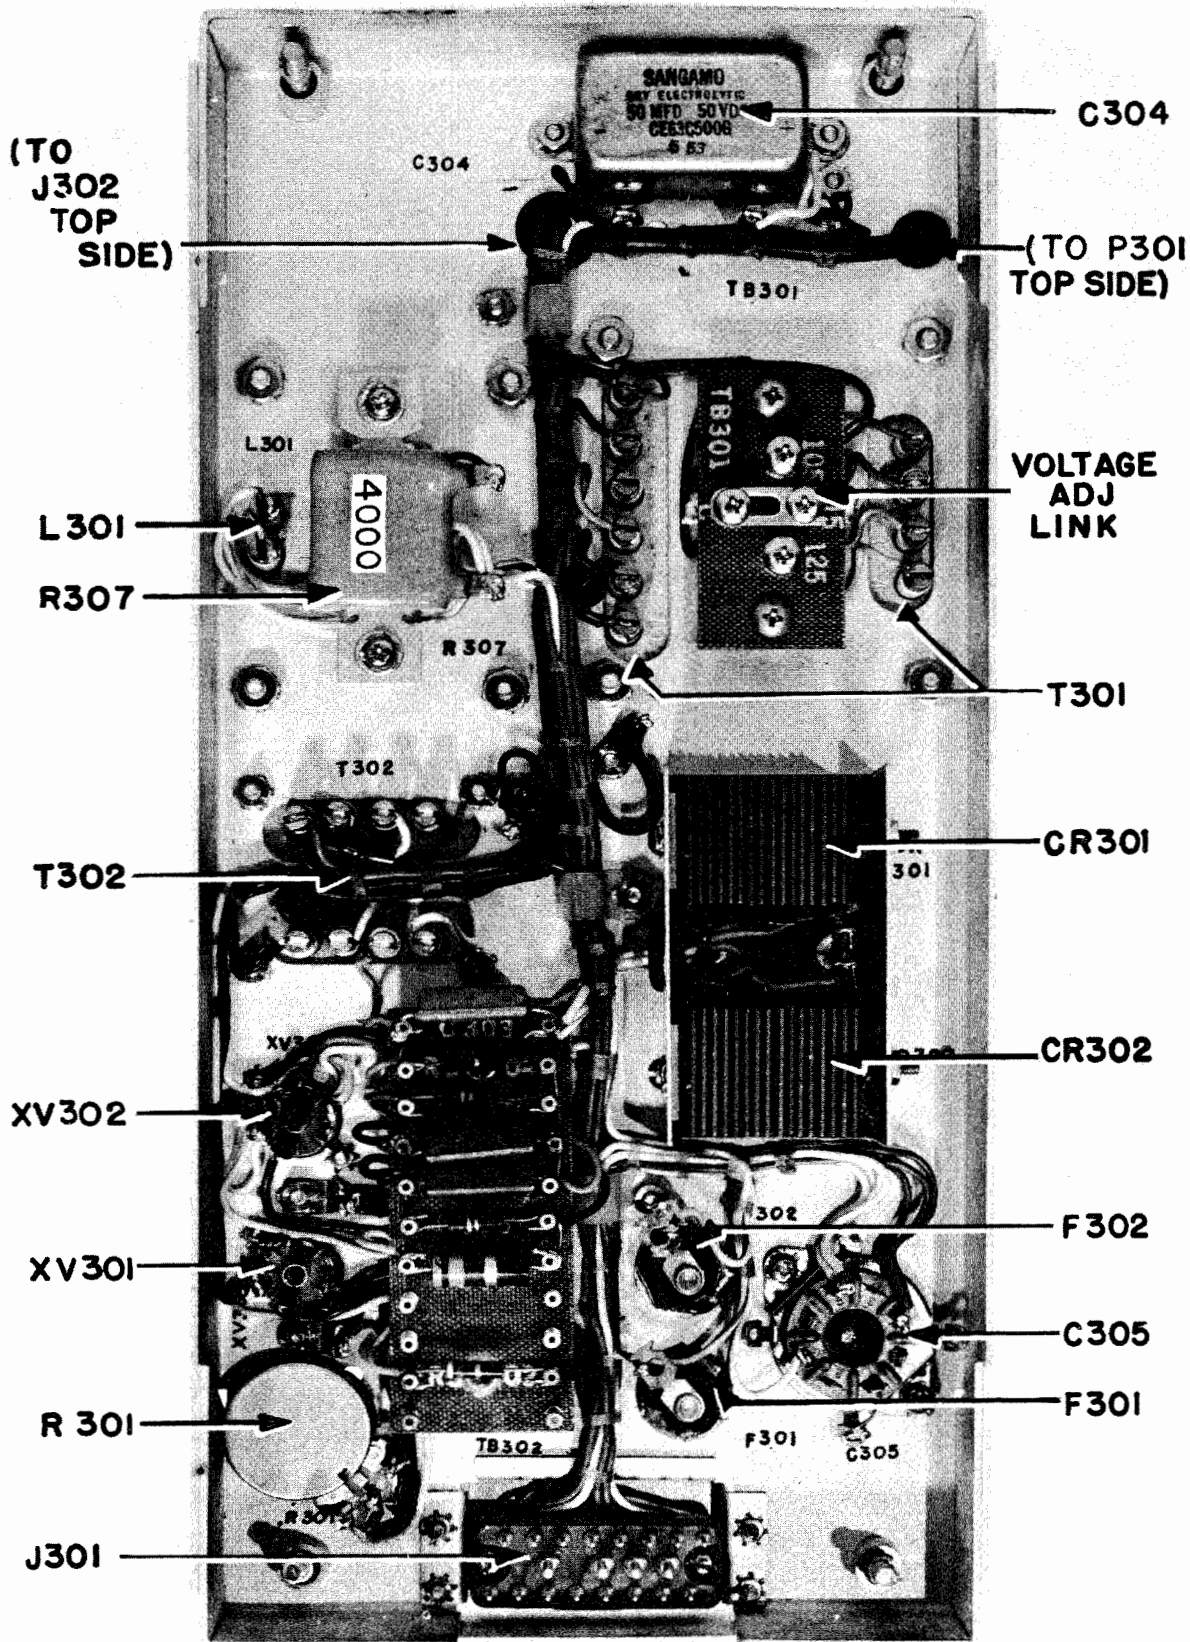
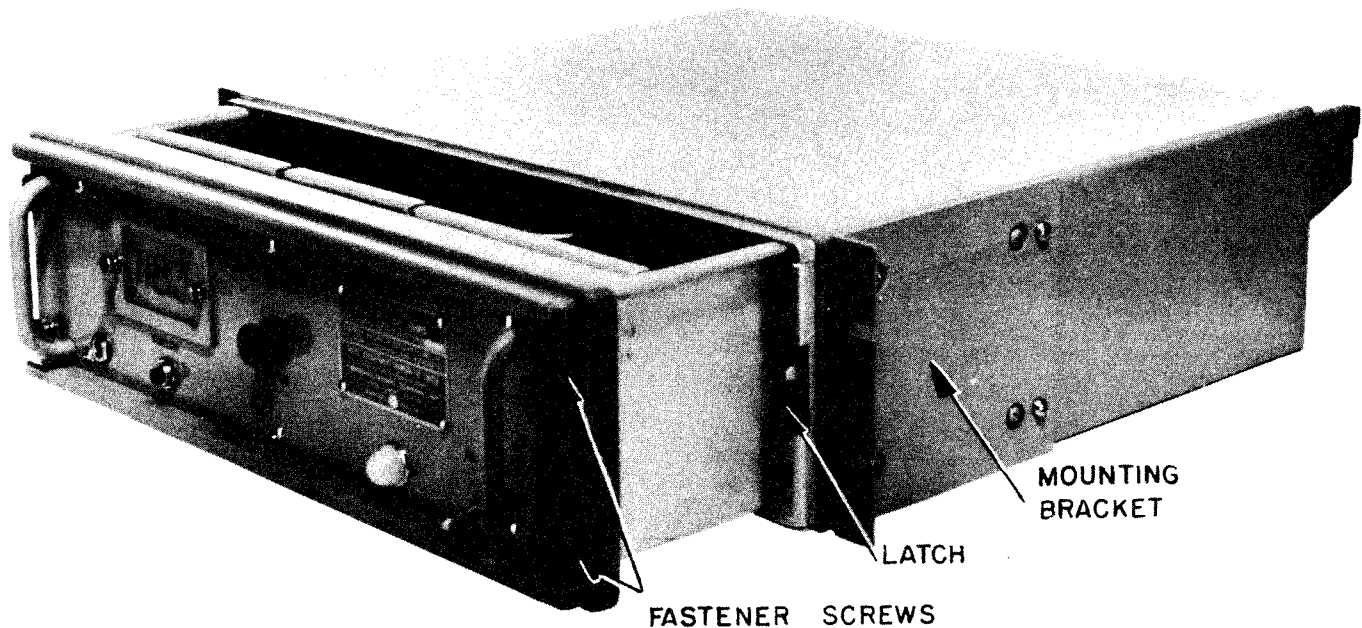

Figure 2-12. Audio/Power Chassis Assembly, Bottom View
Figure 3-2. Relay Rack Mounting, Cabinet Side Lock Operation
c. RELAY RACK MOUNTING.—If the receiver is to be mounted on a standard relay rack, the table or bench mounting feet are not required and should be removed. Instead, attach the two angle mounting brackets to the sides of the cabinet, as illustrated in figure 3-2. The angle brackets are symmetrical in shape and are attached, one to each side of the cabinet, by means of four No. 10-32 thread, 5/8 in. Phillips head machine screws. These screws are shipped, already threaded into tapped holes on each side of the cabinet. These screws are nickle plated; the other screws on the case are painted. Remove the eight nickle plated screws, line up the bracket with the tapped holes and replace the screws.
(1) AC INPUT.—The AC power input enters the receiver rear compartment through connectors P502 (plug) and J502 (receptacle). After passing through a low pass filter, which attenuates all frequencies between 2 and 200 Mc, the two leads pass from the rear compartment to the Audio/Power Supply chassis through connectors J504 and J302. This latter connection is made when the receiver chassis slides into its case and J302 of the chassis engages J504 which is mounted inside the case, at its rear. Before connecting the external AC cable to the power source, remove the receiver chassis (see figures 3-2 and 5-1), and check that fuses F301 and F302 (1 amp. 250 volt type 3AG slow blow) are in their respective fuseholders on top of the Audio/Power Supply sub-chassis. Next, measure the AC line voltage. Locate the AC switching terminal board (see figure 2-12) on the bottom of the Audio/Power Supply sub-chassis; loosen the screw holding the swinging link